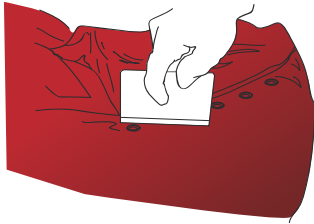

Figure 25
- › Then slide the ROLLRIV over the film to make it adhere to the entire rivet surface. Press it all around the rivet using a squeegee or your thumb. (FIG. 25)